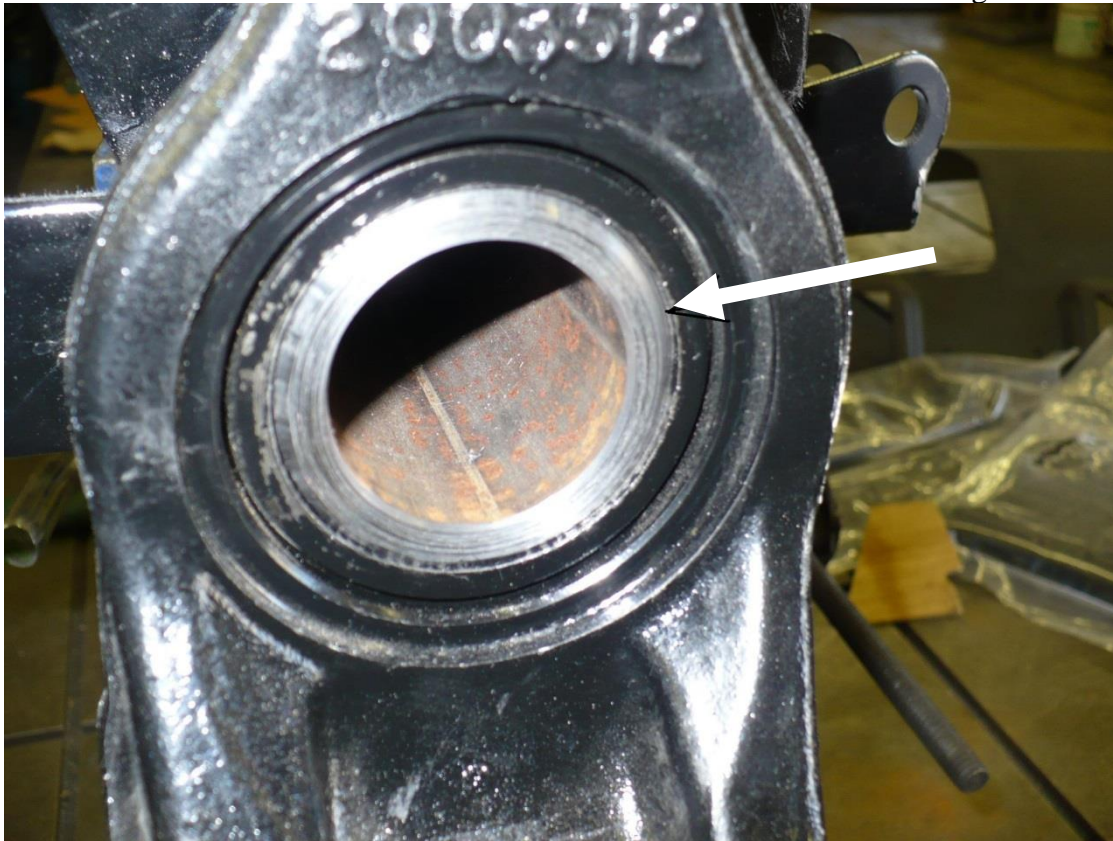

Figure 4. Inner Axle Sleeve Installed Flush With Axle Tube
17. When all the metal shavings are removed, slide in the inner axle sleeves until they are flush with the end of stock axle tube. See **Figure 4**. It may be necessary to use a mallet to slide the tubes all the way in if the axle is corroded or bent. Make sure the sleeves have been cut to the correct length from step 1.